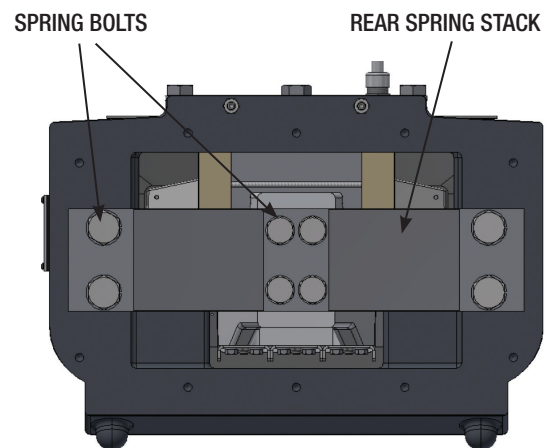

Figure 13
2. Remove rear spring bolts, spring clamps, spacers and springs. (See **Figure 13**)